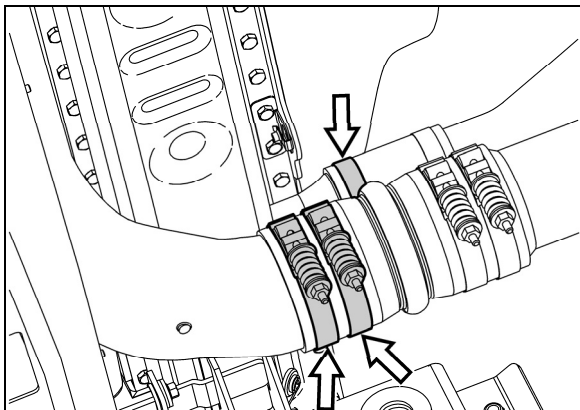

FIGURE 17: REAR COOLANT & CHARGE AIR PIPES
11. Remove rear coolant and charge air hose clamps then break hoses loose (Fig. 17).